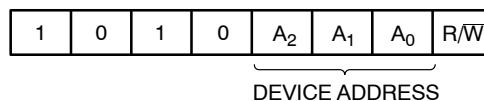

Figure 3. Slave Address Bits
The Master addresses a Slave by creating a START condition and then broadcasting an 8-bit Slave address. For the CAV24C32, the first four bits of the Slave address are set to 1010 (Ah); the next three bits, A2, A1 and A0, must match the logic state of the similarly named input pins. The R/W bit tells the Slave whether the Master intends to read (1) or write (0) data (Figure 3).